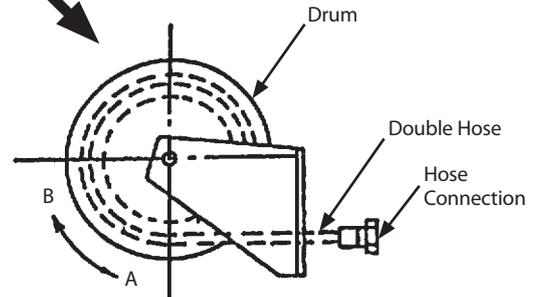

Fig. 22
4. Keeping the torque of the drum, slowly turn the drum about 9 times to the direction B shown in Fig. 22 until no tension is left.